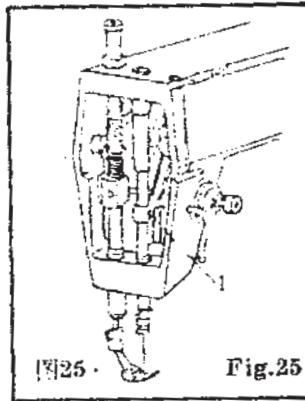

图25 Fig.25
- (1) 旋松旋梭钉三个固定螺钉；
- (2) 转动主轮，使机针下降到最低位置后上升 2.2 毫米；
- (3) 将钩线板，使钩线尖到达机针的中线处；
- (4) 松开针杆连接轴紧固螺钉（图 25）；
(5) 调整针杆的高度，使旋梭勾线尖高于机针孔上边 2 毫米；最后将全部紧固螺钉旋紧。
- (1) Loosen the three set screw of rotary hook,
- (2) Turn balance wheel to lower than the needle in the lowest position and then raise it 2.2mm.
- (3) Turn the rotary hook to make the looping point on the position of the midline of needle.
- (4) Loosen the set screw of needle bar link shaft (Fig. 25)
(5) Regulate the height of needle bar to make the looping point 2mm higher than the hole of needle.